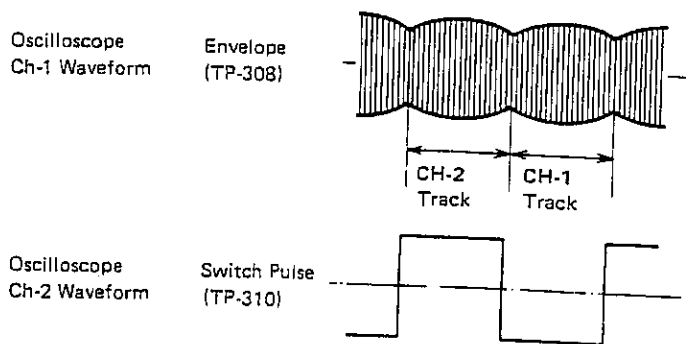

Figure 28
2. Trigger with a switch pulse and observe the envelope (Figure 28).